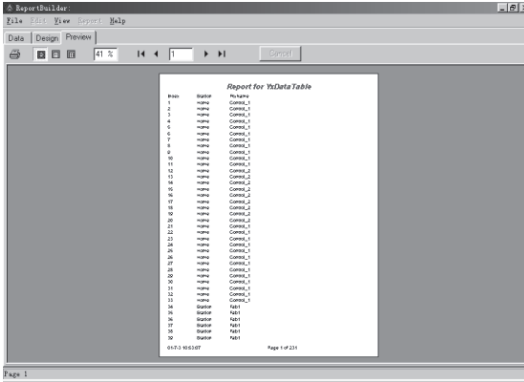

Fig. 8.17
4. Preview the Report: Select and click the page key **Preview** as in Fig. 8.16. And the diagram as in Fig. 8.17 will be displayed.